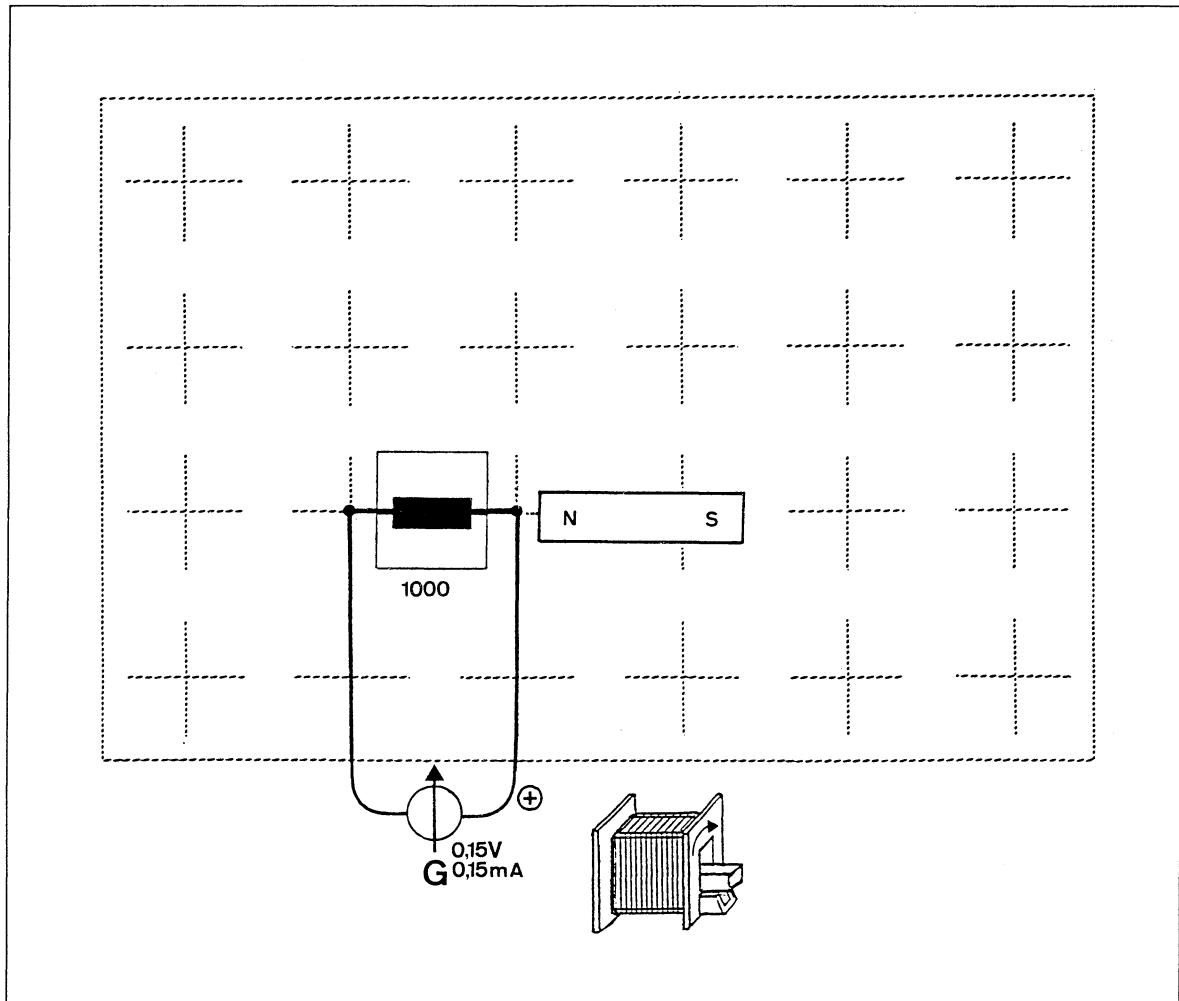

Fig. 1 Experiment setup: electromagnetic induction with bar magnet and coil
1. Place the coil with 1000 turns on the rastered socket panel as shown in Fig. 1.